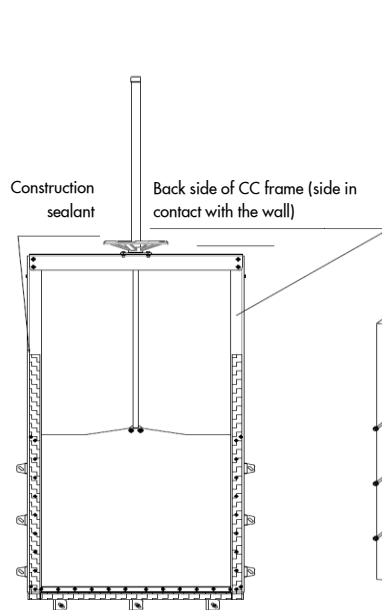

Figure 12
- Apply construction sealant all around the perimeter of the frame, where it will be in contact with the wall. Sikabond/Sikaflex 11FC (200 ml/m) or equivalent construction sealant shall be used (See Figure 12). Be sure not to get sealant on the gate's seals, guides, and/or stem, as this may cause leakage or damage